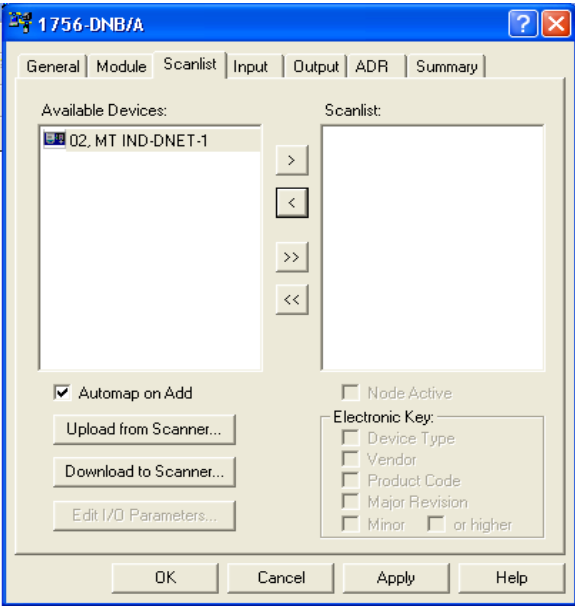

Figure 3-17: Scanner Properties Dialog: Scanlist Tab Showing
7. Click the Scanlist tab in the properties dialog box. The view shown in Figure 3-17 will appear.